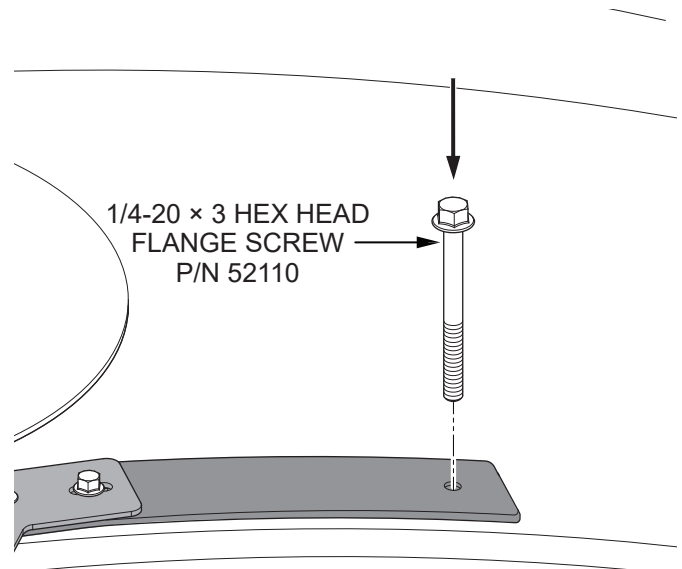

Figure 15. Insert Screw Into Water Tank (Front)
- Insert a **1/4-20 x 3 hex head flange screw (P/N 52110)** into the water tank through the new bracket hole at the front end of the tank as shown in Figure 15.